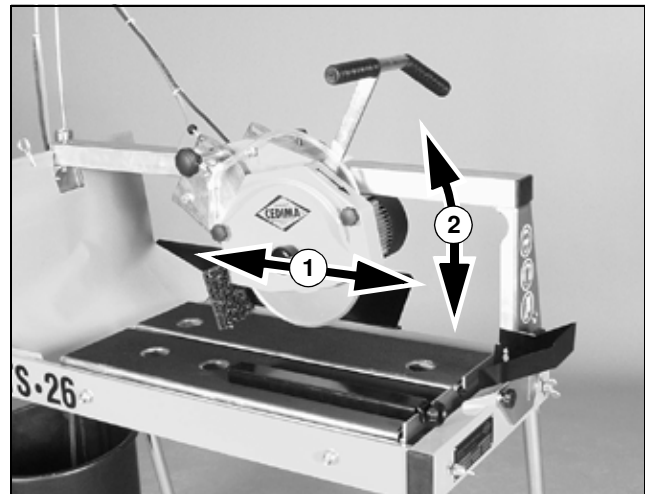

Fig. 4.3 “Swivel cutting method“
The swivel cutting head is held down by the respective handle over the work piece ① and moved to- and -fro across, while slightly pressed down the cutting head and lifting it upwards when pulled back ② (Fig. 4.3).